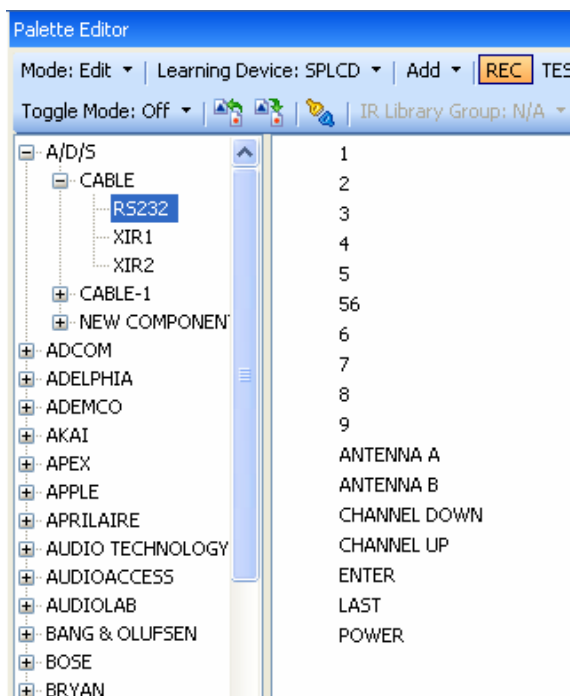

Figure 24
4. The Palette Editor will now be open to the "Brand" & "Component" selected. A list of FUNCTIONS for that type of component will appear as shown in **Figure 24**. Review the list of Functions on the left hand side and compare to the source remote. If your function is not displayed or not named appropriately see the section entitled 'Editing Function Names in the Palette Editor'.